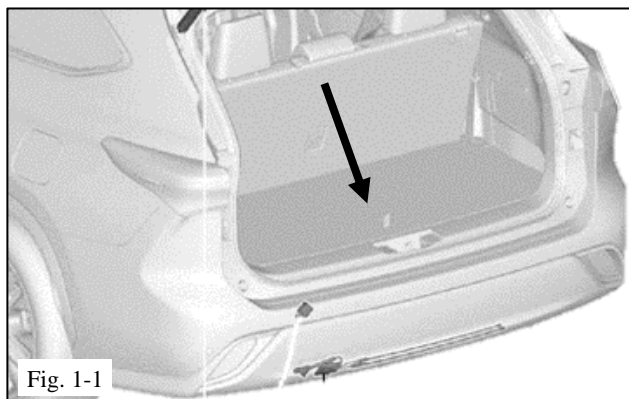

Fig. 1-1
- (1) If there is storage under deck board, place First Aid Kit under deck board (Fig. 1-1).